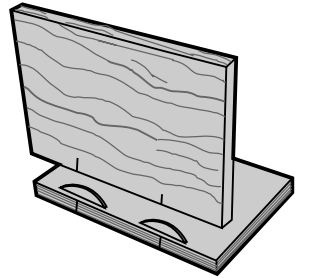

FIG 22
- For this joint, you will make cuts into the edge of one workpiece and the face of another. The edge cut is performed the same as for edge to edge joints. The face cut is made by clamping the workpiece and aligning the tool as shown in Figure 22. Turn the tool on, make the plunge cut and repeat for each layout mark.